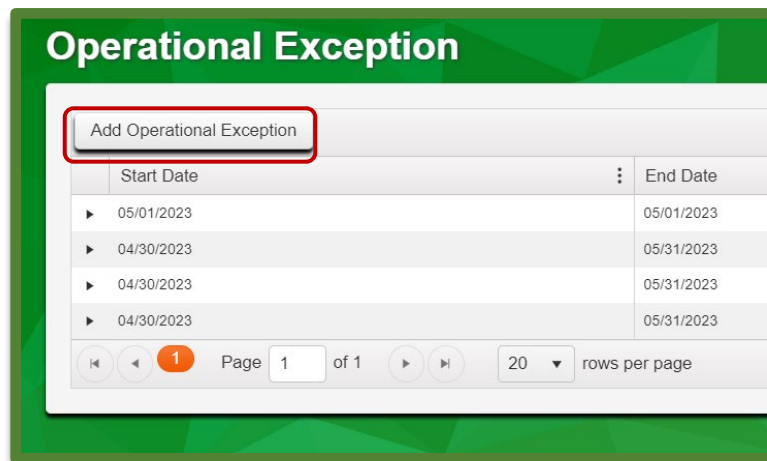

Figure 7: Add Operational Exception Button
3. This will open the Operational Exception grid, then select the 'Add Operational Exception' button as shown in **Figure 7**.